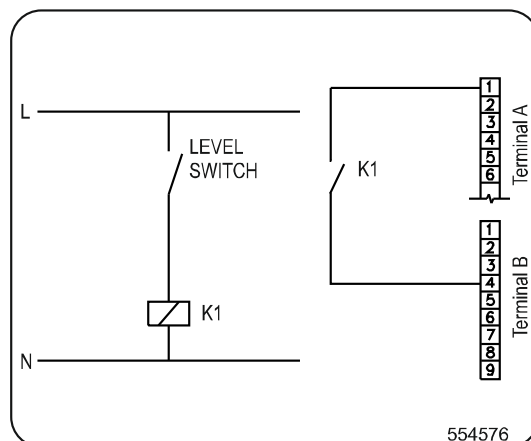

Figure 13
- This option is not obligatory. However, it is advisable to install a level switch. This level switch must be connected to the microprocessor by means of a potential-free contact, see Figure 13.